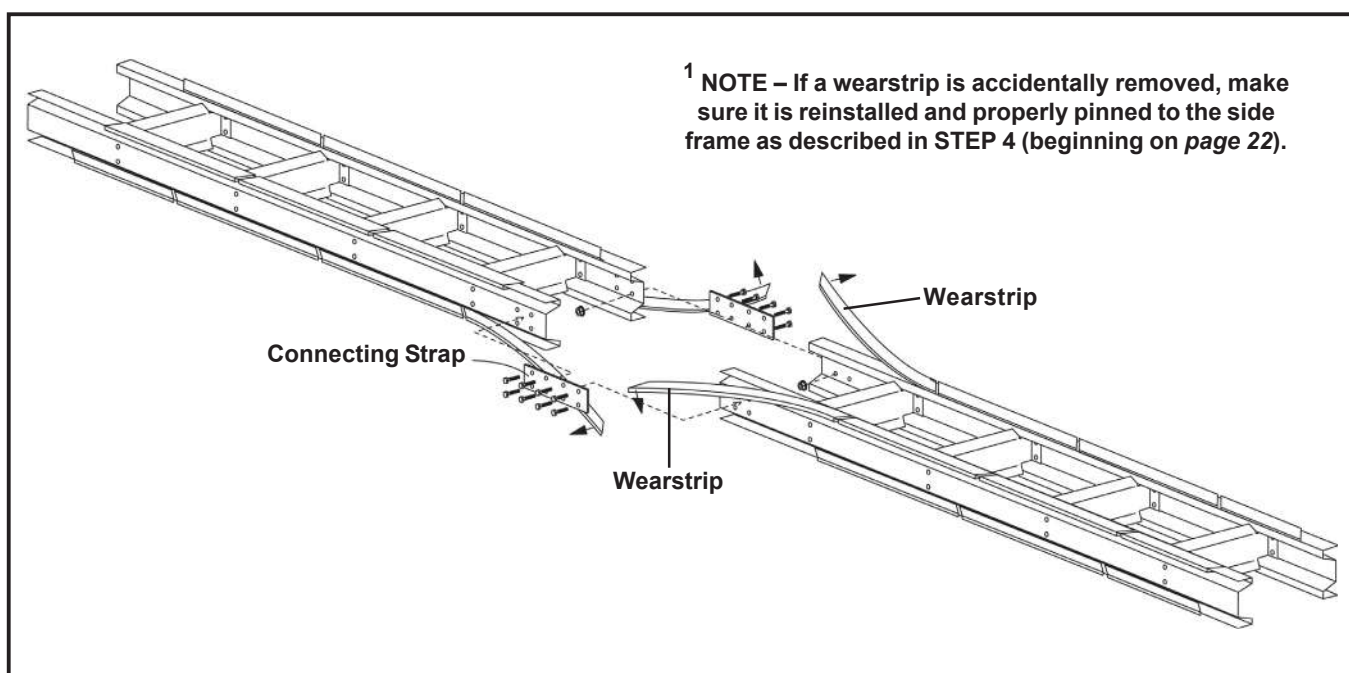

Figure 3: Overview of Bed Section assembly
- Pull any trailing wearstrips at the ends of the bed sections away from the conveyor side frame¹ so they will not interfere while connecting the bed sections (*Figure 3*).